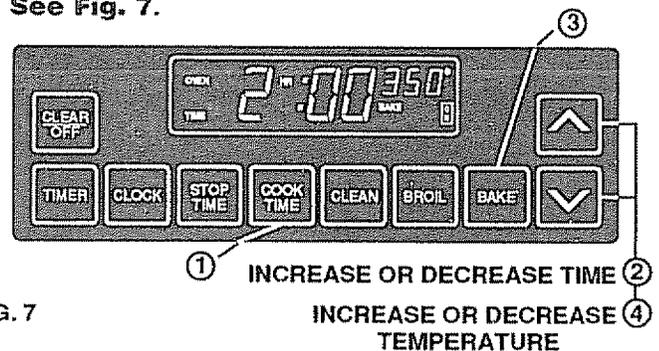

FIG. 7
4. Select temperature using **UP** or **DOWN** arrow. See Fig. 7.